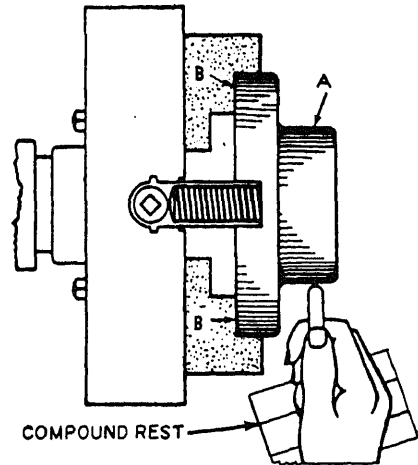

Figure 8-15.—Work mounted in a 4-jaw independent chuck.
Figure 8-15 shows a rough casting mounted in a four-jaw independent lathe chuck on the spindle of the lathe. Before truing the work, determine which part you wish to turn true. To mount a rough casting in the chuck, proceed as follows:
4. Revolve the spindle slowly, and with a piece of chalk mark the high spot (**A** in fig. 8-15) on the work while it is revolving. Steady your hand on the toolpost while holding the chalk.
7. When the work is running true in the chuck, tighten the jaws gradually, working the jaws in pairs as described previously, until all four jaws clamp the work tightly. Be sure that the back of the work rests flat against the inside face of the chuck, or against the faces of the jaw stops (**B** in figure 8-15).